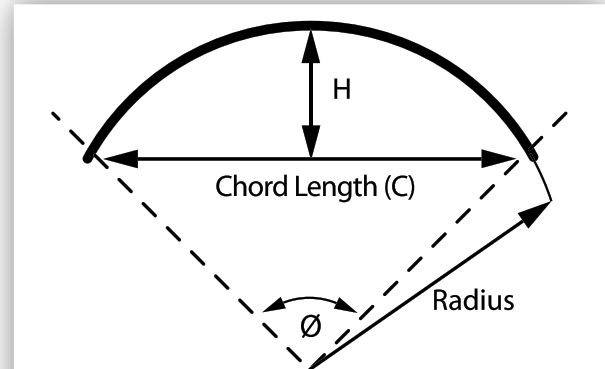

Figure 11: Curvature Measurements
2. Measure the corresponding chord length (C)
- refer to Figure 11.
3. Measure the corresponding centre offset (H)